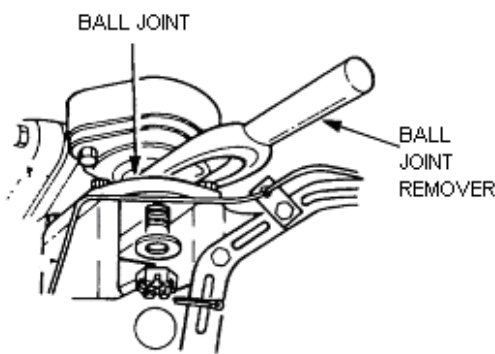

Figure 134 Top Link and Ball Joint Removal
- g. Using the ball joint remover (Table 3, Serial 14), remove the ball joint taking care not to damage the brake pipe (Figure 134).